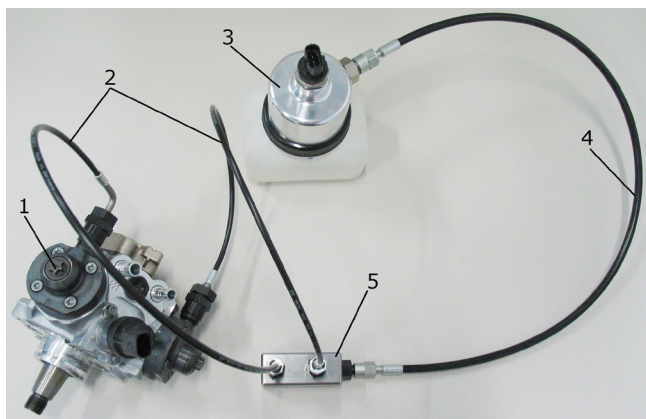

Abb. 14: Example of connecting to a CP 4.2 common rail high-pressure pump
1. Connect the high-pressure connections on the CP 4.2 (fig. 14, item 1) and the combining rail (fig. 14, item 5) by means of black 60 MPa hoses (fig. 14, item 2) and attach using the appropriate connection adapter, angle, nut and compression ring (left-hand thread).
3. Connect the combining rail (fig. 14, item 5) to the pressure sensor module (fig. 14, item 3) by means of a black 60 MPa hose (fig. 14, item 4).
5. Connect the 180 MPa hose assembly to the pressure sensor (fig. 14, item 5).